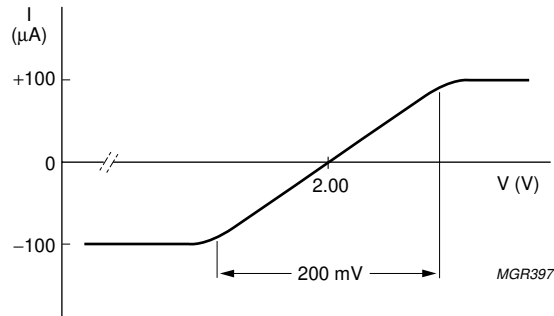
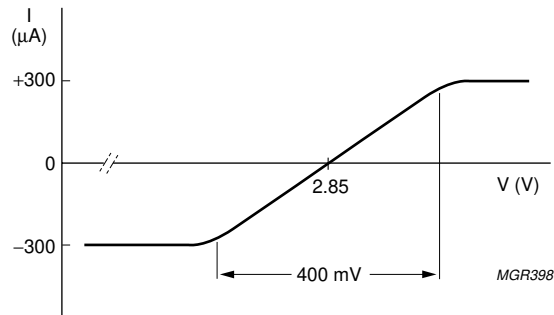
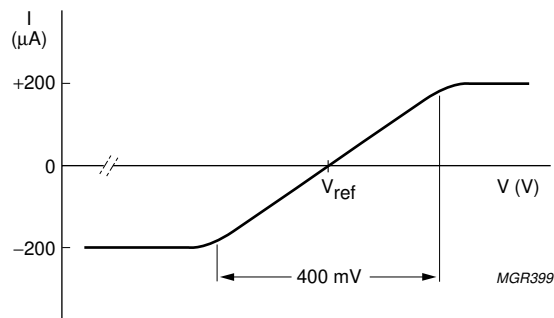

Fig.9 Typical clamp current for pin CPCDS.
Fig.10 Typical clamp current for pins IND and INP.
Fig.11 Typical clamp current for pin V_{ref}.
- More information about CDS related signals is available in the following figures: The clamp current for pin CPCDS is given in Fig. 9, clamp current for pins IND and INP in Fig 10 and for clamp current for pin V_{ref} in Fig 11. The CDS output amplitude is shown in Fig. 14